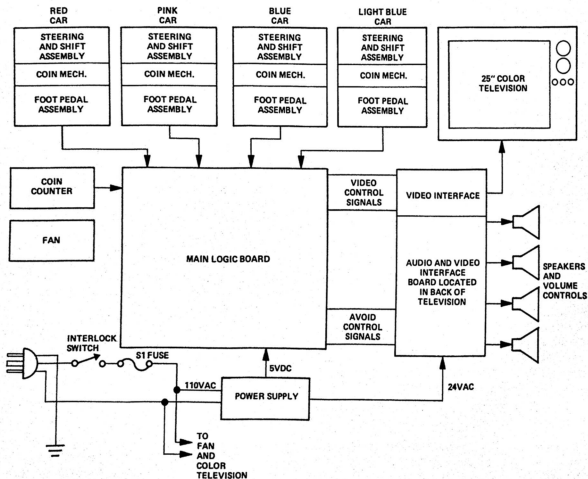

FIGURE 1. SYSTEM BLOCK DIAGRAM
4. SYSTEM FUNCTIONAL DIAGRAM (refer to figure 1)